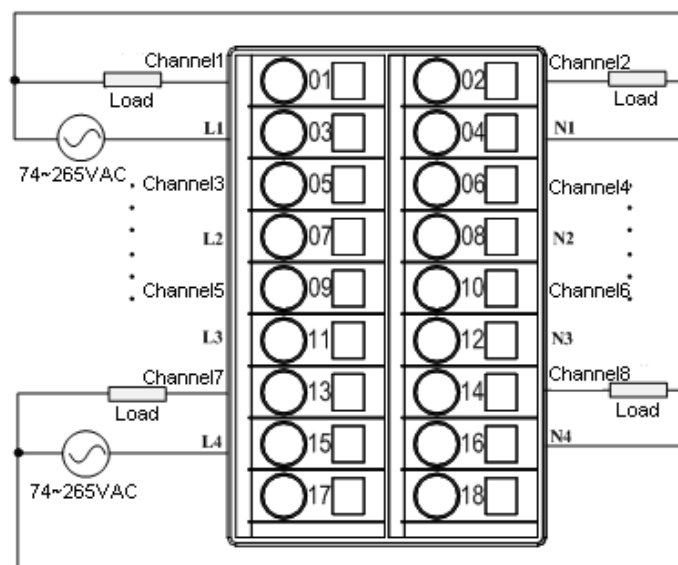

Figure 9.26: Wiring of LK712 Backplane Terminals
- LK712 module is wired through the correspondence terminals under the local backplane installation slot. The relationship between each channel and terminal is shown in Figure 9.26. One ends of the 8 channel loads connect to the wiring terminals of their correspondence channels while the other ends connect to each field power supply.